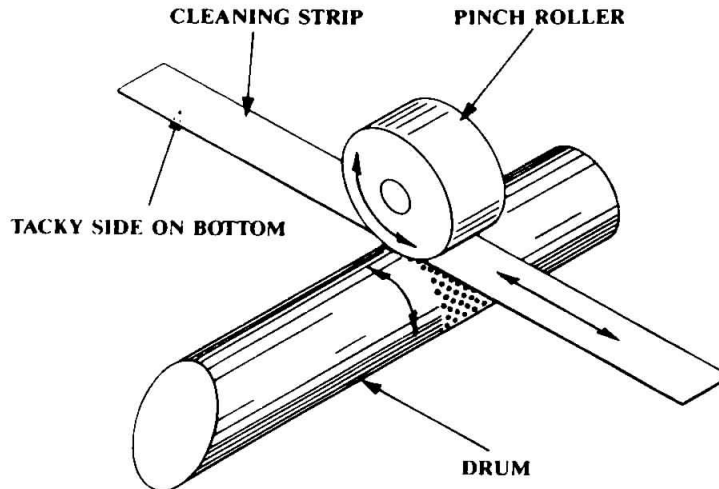

FIGURE 11-2. DRUM CLEANING
5. Place the cleaning strip between the pinch roller and the drum, with the tacky side of the cleaning strip toward the drum as shown in Figure 11-2. Close the right pinch roller arm.